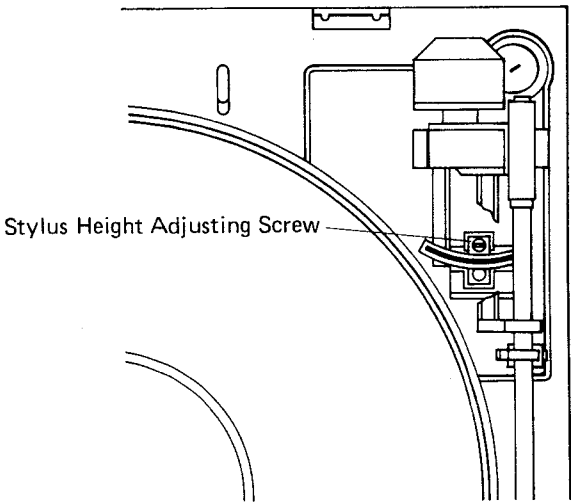

Fig. 3
3. Set the tone arm in "Cueing Up" mode and turn the stylus height adjusting screw in Fig. 3 until the stylus height becomes 7.8 mm away from the surface of the turntable.